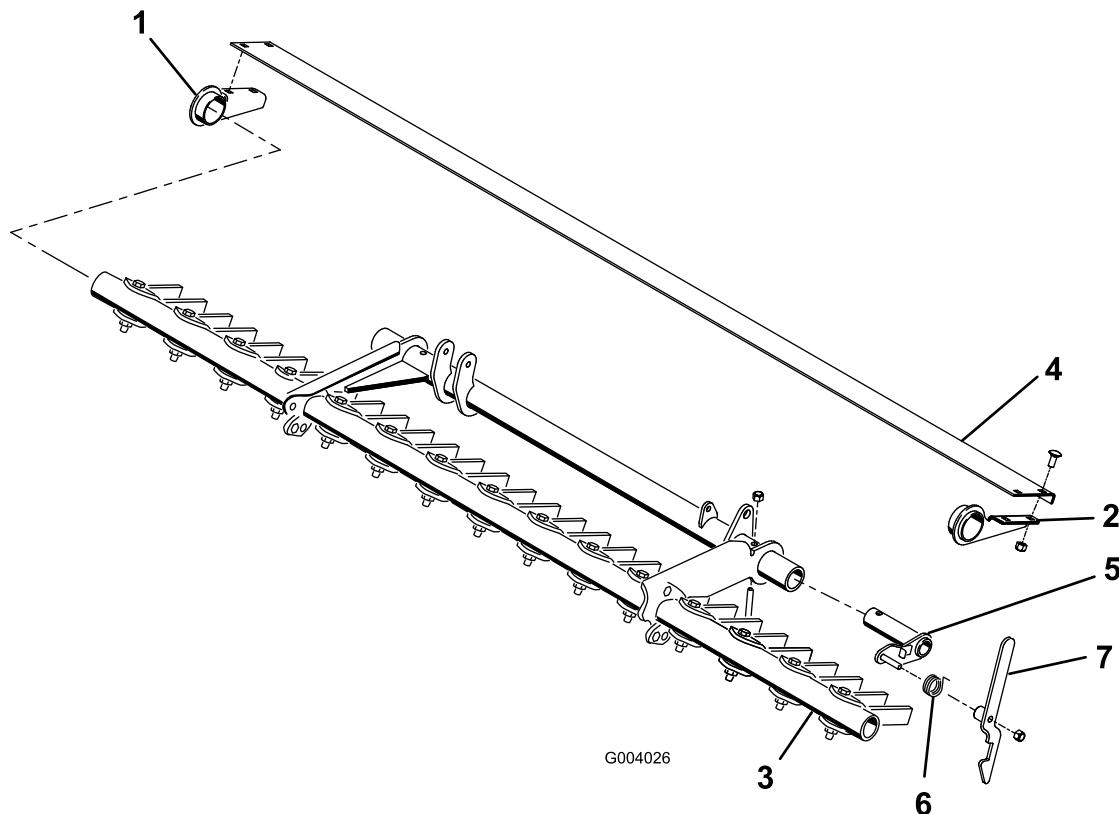

Figure 1
the latch and the front of the blade lock lever. Secure the spring and the lever to the stud with a locknut (5/16 inch) (Figure 1). Do not overtighten the nut. The blade lock lever must be able to pivot freely.
- Insert the left hand and right hand pivots onto the appropriate end of the tool bar (Figure 1). The pivots are to be positioned so they point toward the front of the machine.
- Mount the blade plate to each pivot with 2 carriage bolts (5/16 x 3/4 inch) and 2 locknuts (5/16 inch) (Figure 1).
- Insert the latch into the right end of the midmount lift tube, align the mounting holes and secure together with a bolt (5/16 x 2 inches) and locknut (5/16 inch). Position the latch and fasteners as shown in Figure 1.